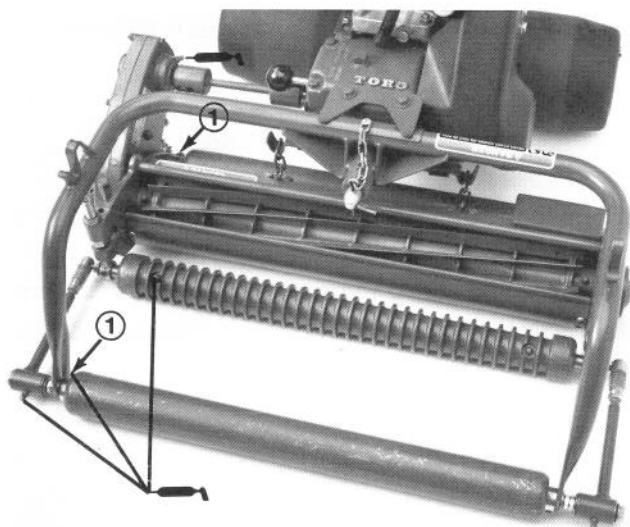

Figure 23
- A. Cutting unit reel bearings, drive shaft bearing, front roller or support, yoke pivot and pull arm bushings and rear cutting unit and yoke rollers (Fig. 23).
B. To lubricate the rear cutting unit and yoke rollers, remove pipe plugs at each end, install 1/8-27 NPT grease fittings, lubricate bearings, remove fittings and replace pipe plugs (Fig. 23). Apply grease to enclosed bearing areas only until pressure is felt against the grease gun.
C. Front roller or support, yoke pivot and pull arms; apply grease to bearings until it begins to show (Fig. 23).